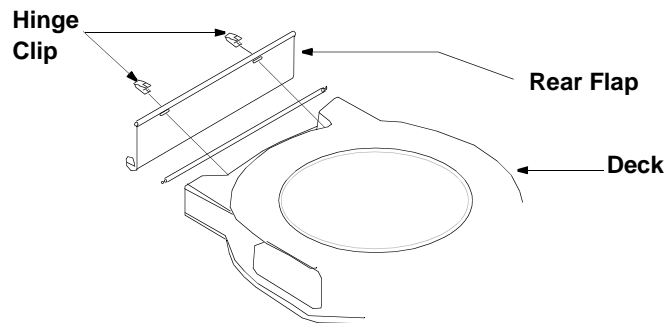

Figure 19
- To remove the old rear flap, compress the hinge clips and remove the flap from the slot in rear of the deck. See Figure 19.
- To attach the new rear flap, place new hinge clips in the slots on the flap. Then compress the spring clips and reinsert flap in slots in rear of deck. See Figure 19.